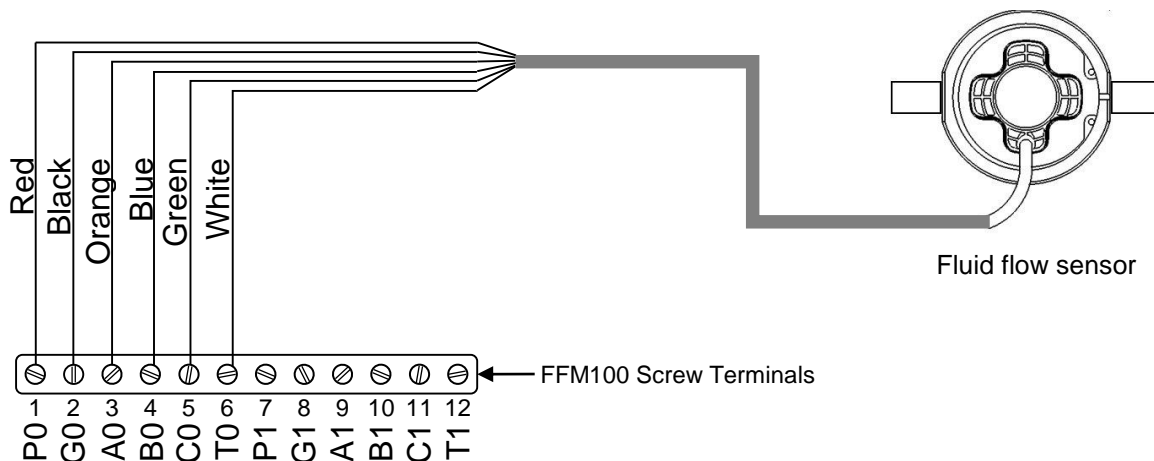

Figure 2 - Fuel Flow Sensor Connection Diagram
9. Connect the six wires of the pressure transducer to a free pressure monitoring channel. Please refer to Figure 2 below for details.